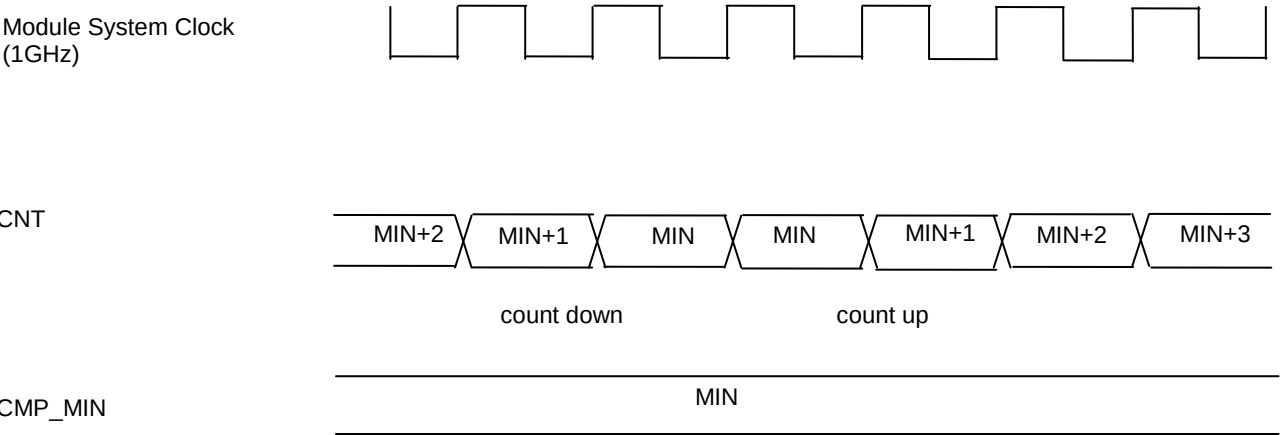

Figure 14-13 Counter Down to Up Change Timing in Up-Down Mode
- (4) CNT Down to Up changing Timing in Up-Down Mode
- The CNT Changing Timing from Down count to Up count is shown in Figure 14-13. Conditions of this example are